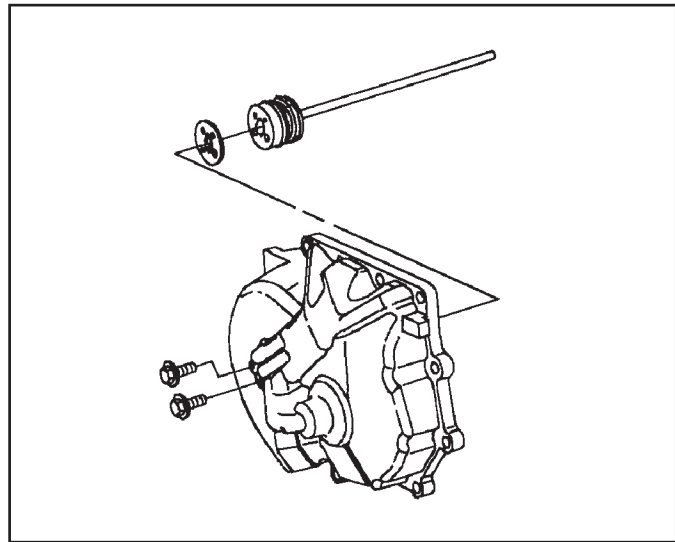

Figure 170
20. Install a new gasket into the rear cover for the lube, 1st and 2nd clutch flange as shown in Figure 170.
21. Install the flange into the rear cover over the gasket and install and tighten the two retaining bolts to 12 N m (106 in. lbs). Make sure to line up the roll pin with the slots in the cover (See Figure 170).